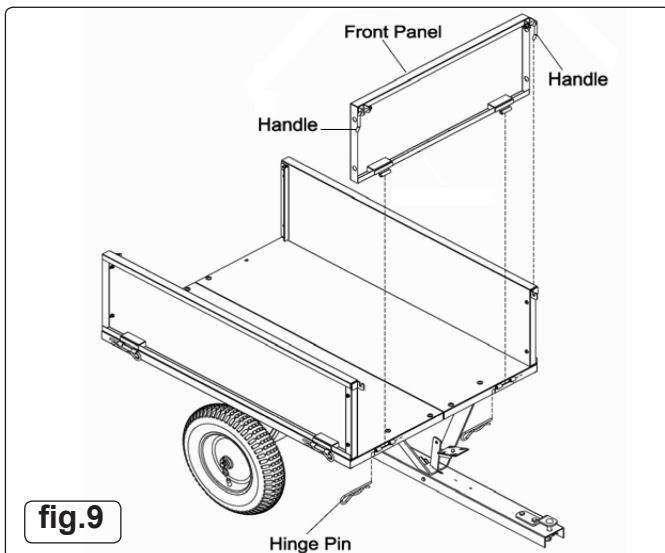

fig.9
- 5.8.2 Attach the front panel to the bottom panel using two hinge pins as shown in fig.9.
- 5.8.3 Lock each side panel to the front panel as follows. Rotate the handles at each top corner of the front panel (see fig.9) through 180° so that they are pointing upwards. Let the bent part of each handle protrude into the slotted tag on each side panel. Rotate the handles back down into their original positions so that the slotted tags are retained against the side edges of the front panel.